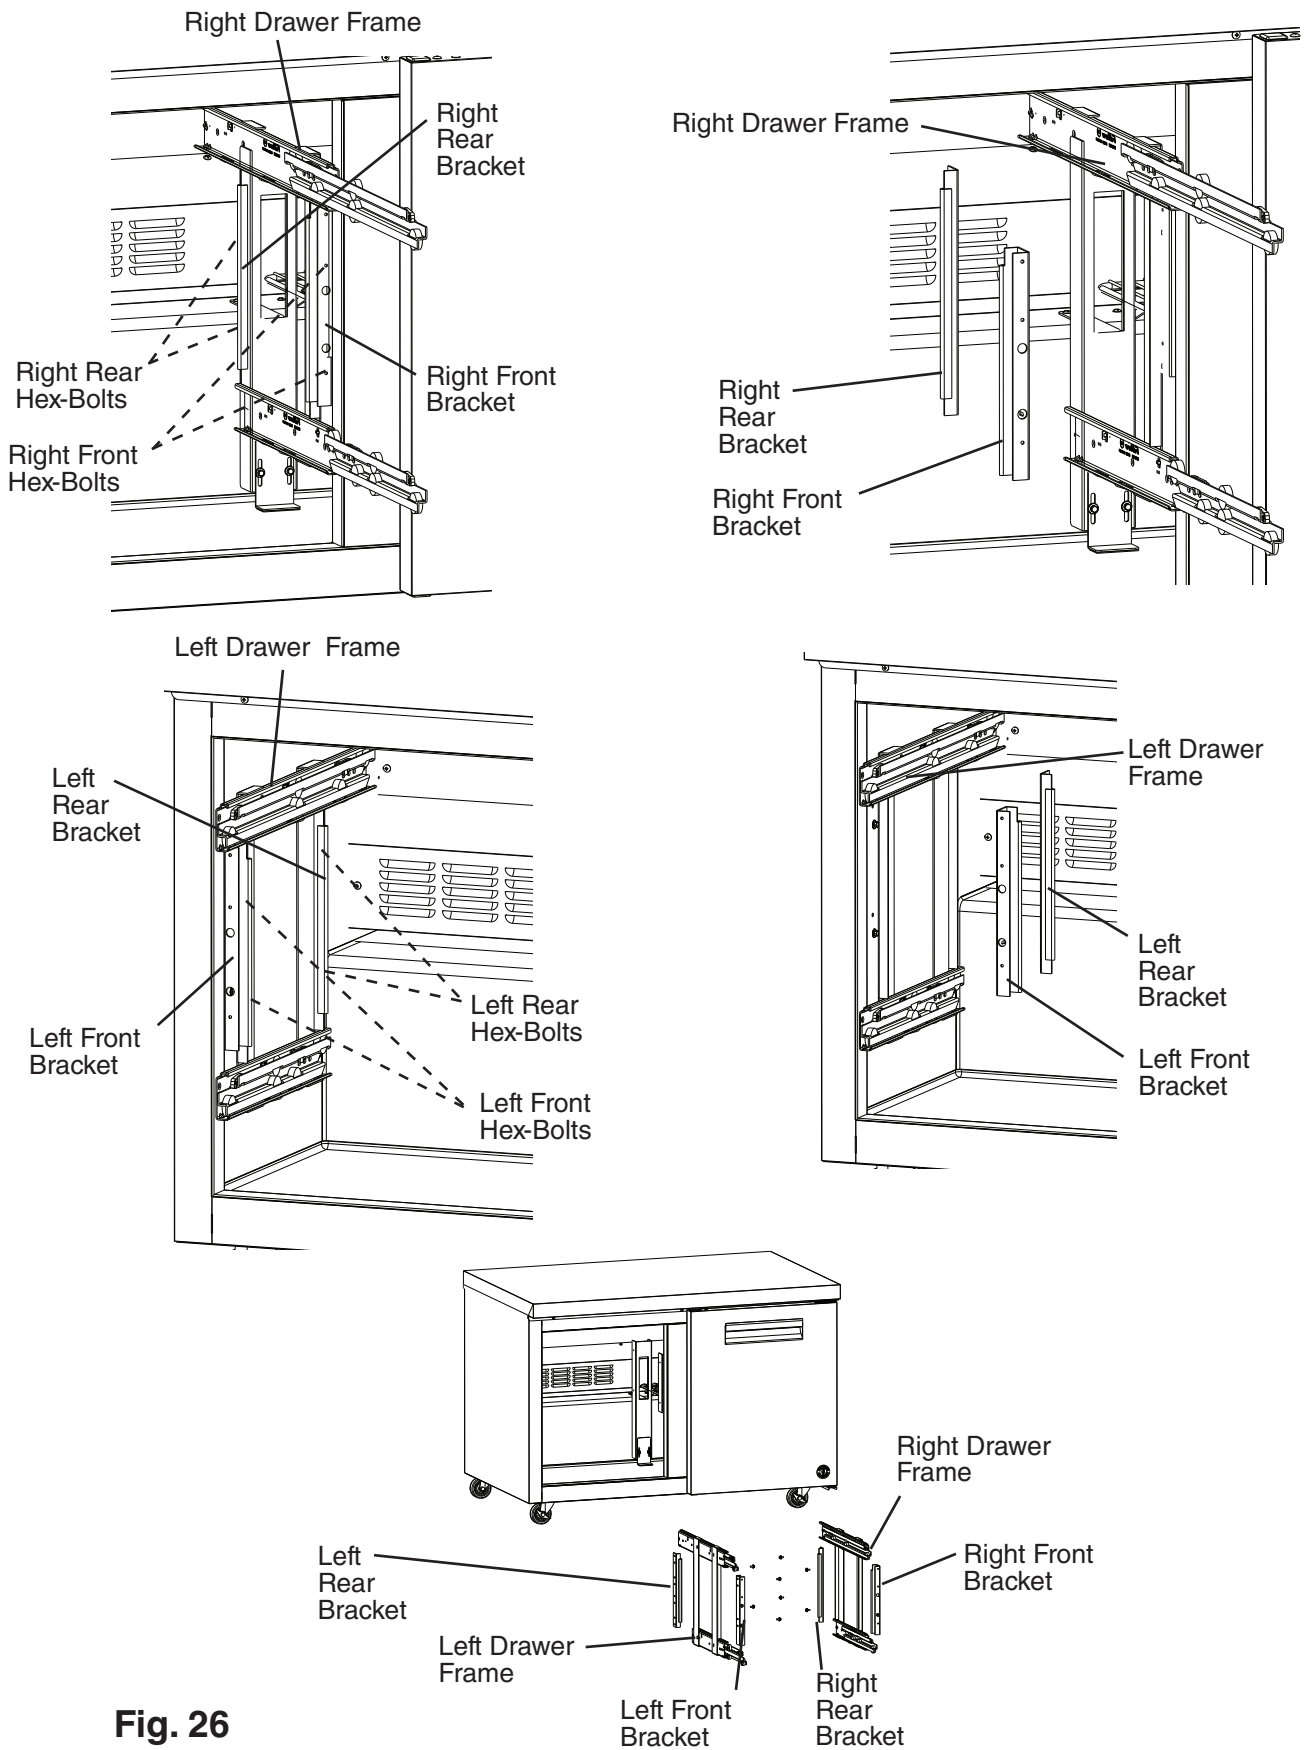

Fig. 26
- 4) Remove the hex-bolts from the 2 right (front and rear) and 2 left (front and rear) brackets (2 hex-bolts per bracket), then remove the right and left drawer frames. See Fig. 26.